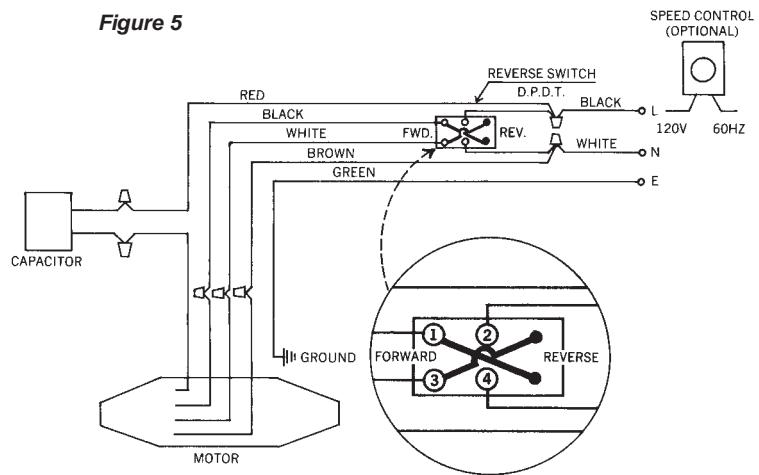

**Figure 4**
**IMPORTANT NOTICE:** It is important to note proper installation position of the cable clamps as illustrated in Figure 4. To obtain maximum holding power, install U-bolt section of clip on dead or short end of cable and saddle on long end of cable. Improper installation reduces the efficiency of the connection by as much as 40 percent.